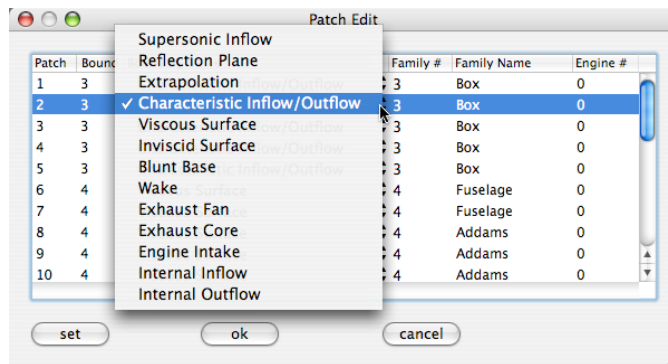

Figure 2.3.7 Boundary Condition Selector in the Mac variant
3. Select the “Edit Patch Information” option from the Edit panel. The patch number corresponding to the patch on which you just selected will automatically be displayed and highlighted in the list, as shown in Figure 2.3.6. In the Linux variant, you need to scroll down the list of boundary conditions until you locate the one that is currently associated with that patch. In the Mac variant, the boundary condition currently associated with the selected patch is shown on the same line as the highlighted patch. You then select the appropriate boundary condition : in the Linux variant, this is done by clicking on the appropriate entry in the list of boundary conditions; in the Mac variant, you click on the disclosure triangles next to the boundary condition name, and select the appropriate entry, as shown in Figure 2.3.7.
Note that in the Mac variant, the currently assigned boundary condition will have a check mark next to it (as shown in Figure 2.3.7).
**SimpleView** can display a mirror image of the configuration (i.e., the surface patches, surface grid and volume grid cuts, as well as any flow solution-related objects), mirrored about the patch set to the “reflection plane” boundary condition. **SimpleView** assumes that the patch associated with the “reflection plane” boundary condition is an x, y, or z-constant plane containing/passing through the origin (0,0,0). To activate mirroring, you can hit the “Mirror Grid” hotkey (“M” by default) to toggle the display of the mirrored objects This is illustrated in Figure 2.3.7.